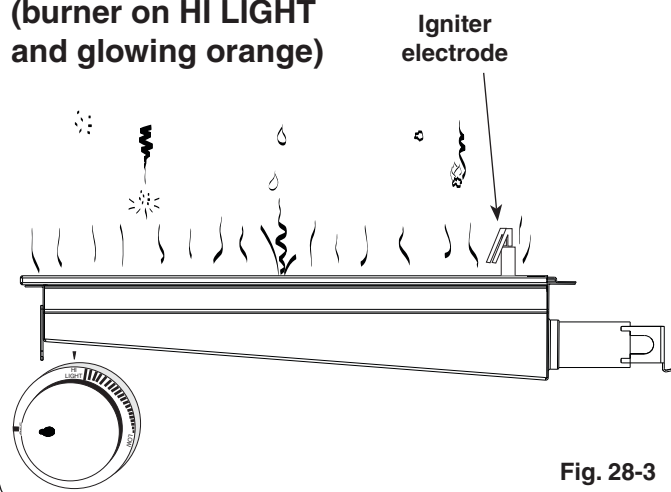

Fig. 28-3
- **DO NOT place food on the cooking grid until the IR burner glows orange (Fig. 28-3).** Drippings are heated and evaporate instead of sticking to and impairing burner function.